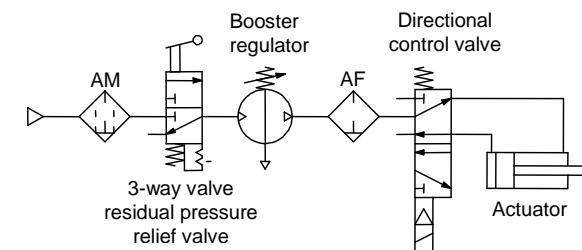

Fig.3 Circuit example (2)
- c) After exhausting the downstream piping, exhaust supply pressure at the booster regulator inlet side using the residual pressure relief valve upstream the booster regulator (see Fig.3). This will stop unnecessary operation and prevent malfunction